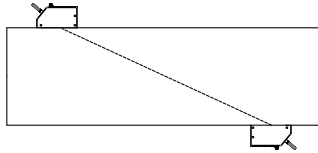

Fig. 3.5: Diagonal arrangement
The transducers are mounted on the opposite sides of the pipe (see Fig. 3.5).
- odd if the measurement is conducted in the diagonal arrangement (see Fig. 3.5)